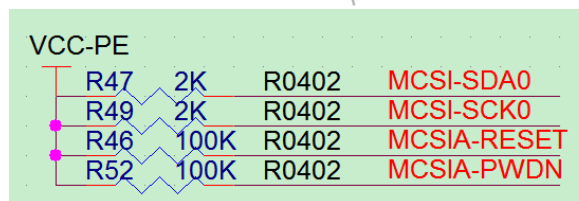

Figure 2-58 I2C Design of Camera
- The CAMERA I2C must be connected to pull-up resistors and cannot be shared with other devices. The I2C address of the front and rear cameras should be different to avoid communication conflict. As shown in Figure 2-58.